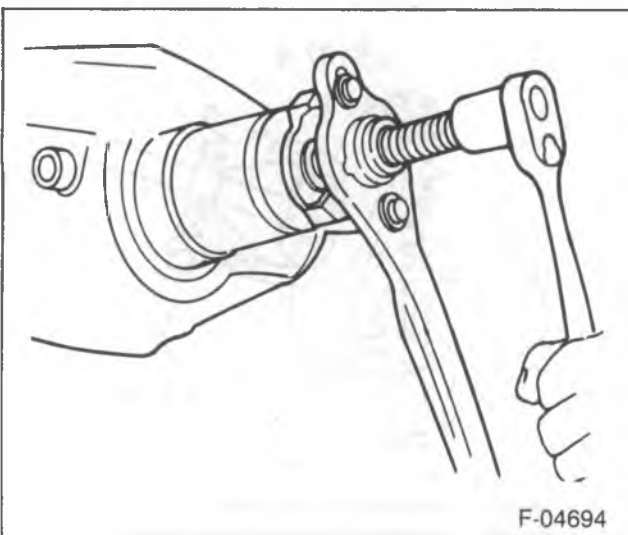
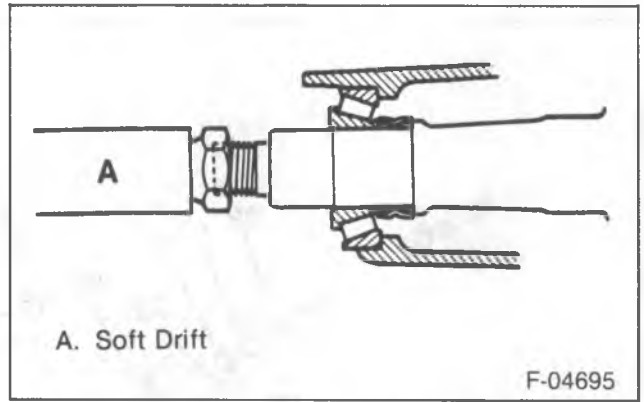
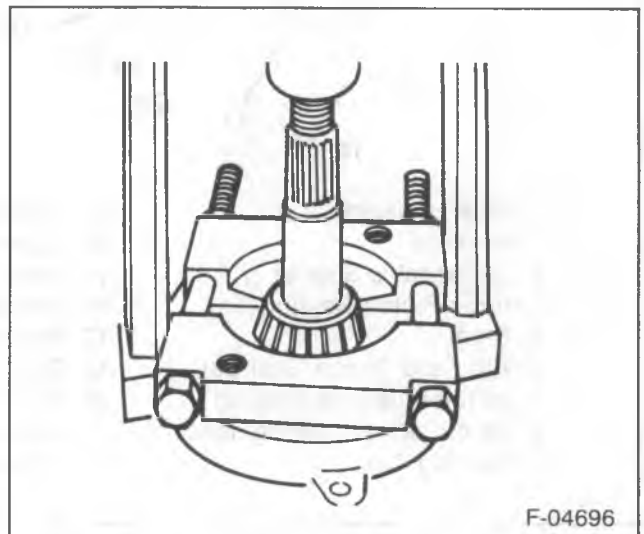

Figure 6—Pinion Flange Removal
Figure 7—Removing the Drive Pinion
Figure 8—Removing Drive Pinion Rear Bearing
14. Pinion flange using J 8614-01 (figure 6).
15. Pinion (7) from the axle housing.
- Replace the differential cover (12) with two bolts (14) to keep the pinion from falling to the floor.
- Drive the pinion out of the housing with a hammer and a soft drift (figure 7).
16. Collapsible spacer (4) from the pinion.
17. Outer pinion seal (38) and bearing (39).
18. Inner bearing (5) and shim (6) from the pinion.
- Press the bearing off the pinion using J 8612-B (figure 8).
19. Bearing cups (5) and (39) from the axle housing using a hammer and a punch.